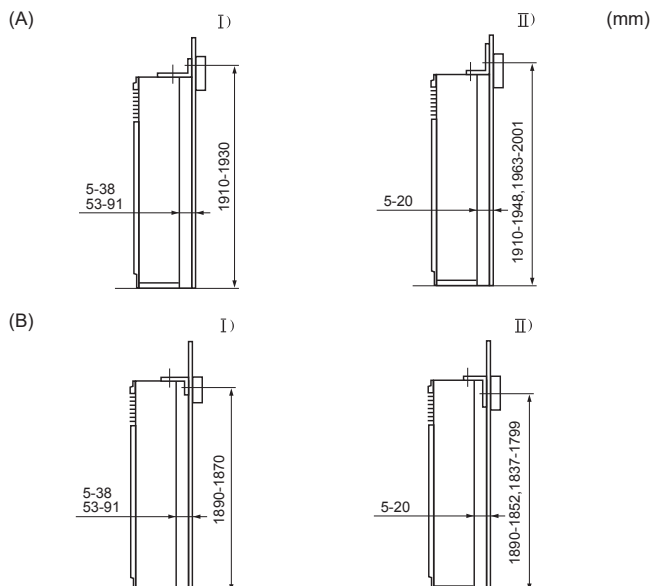

Fig. 3-3
The tip-over prevention bracket (1) is set on the top surface of the unit. Remove the tapping screws (2), and then reinstall the bracket, as shown in the illustration. For the proper installation distances, see Fig. 3-3.
- (D) Screw
3.3. Mounting the tip-over prevention bracket (Fig. 3-3)